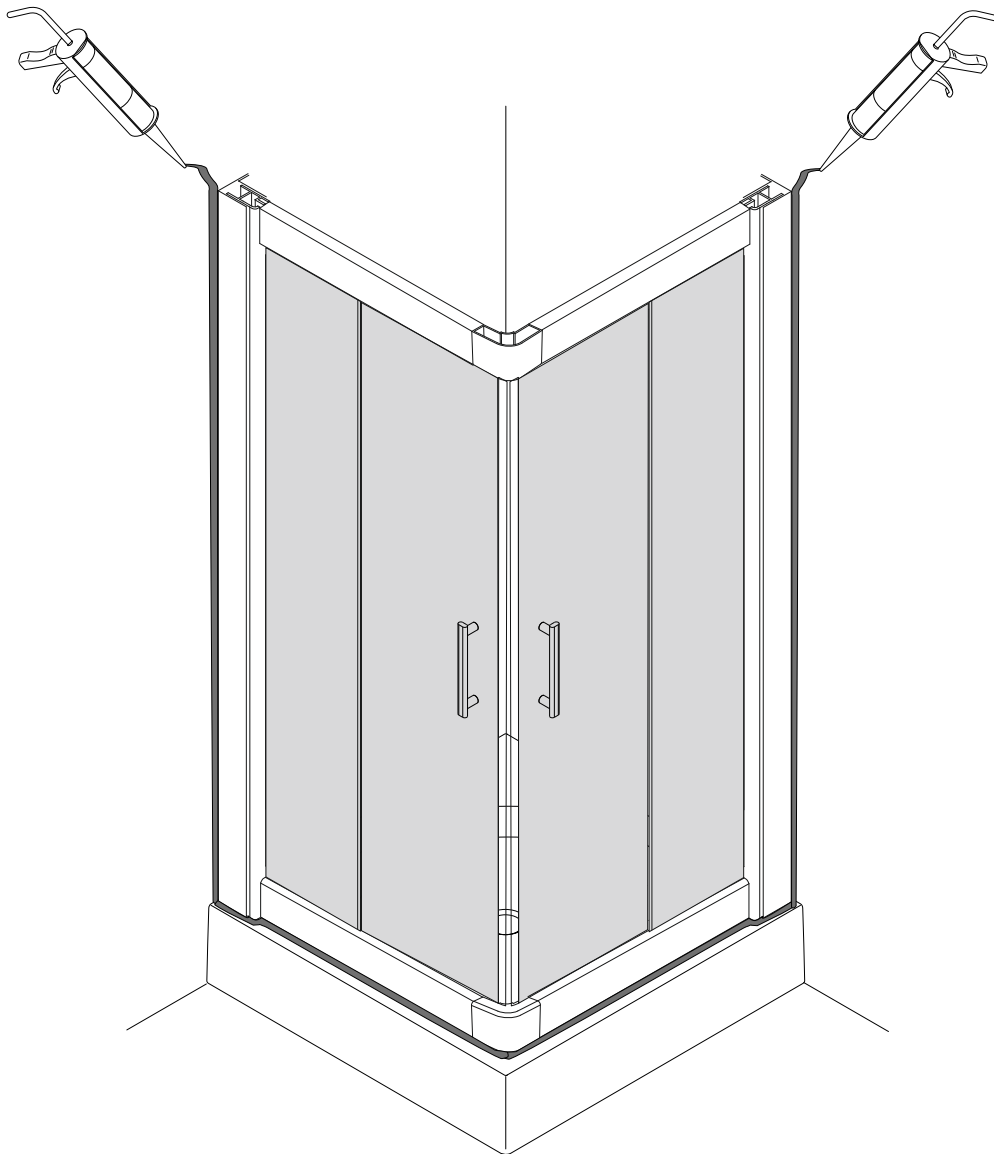

Fig. 12
12) Lay the glass cement between the wall and fixed door profile, bending rail with tray to complete the mounting. As Fig 12.
12) Siliconare nella parte esternail box doccia.Vedi fig. 12